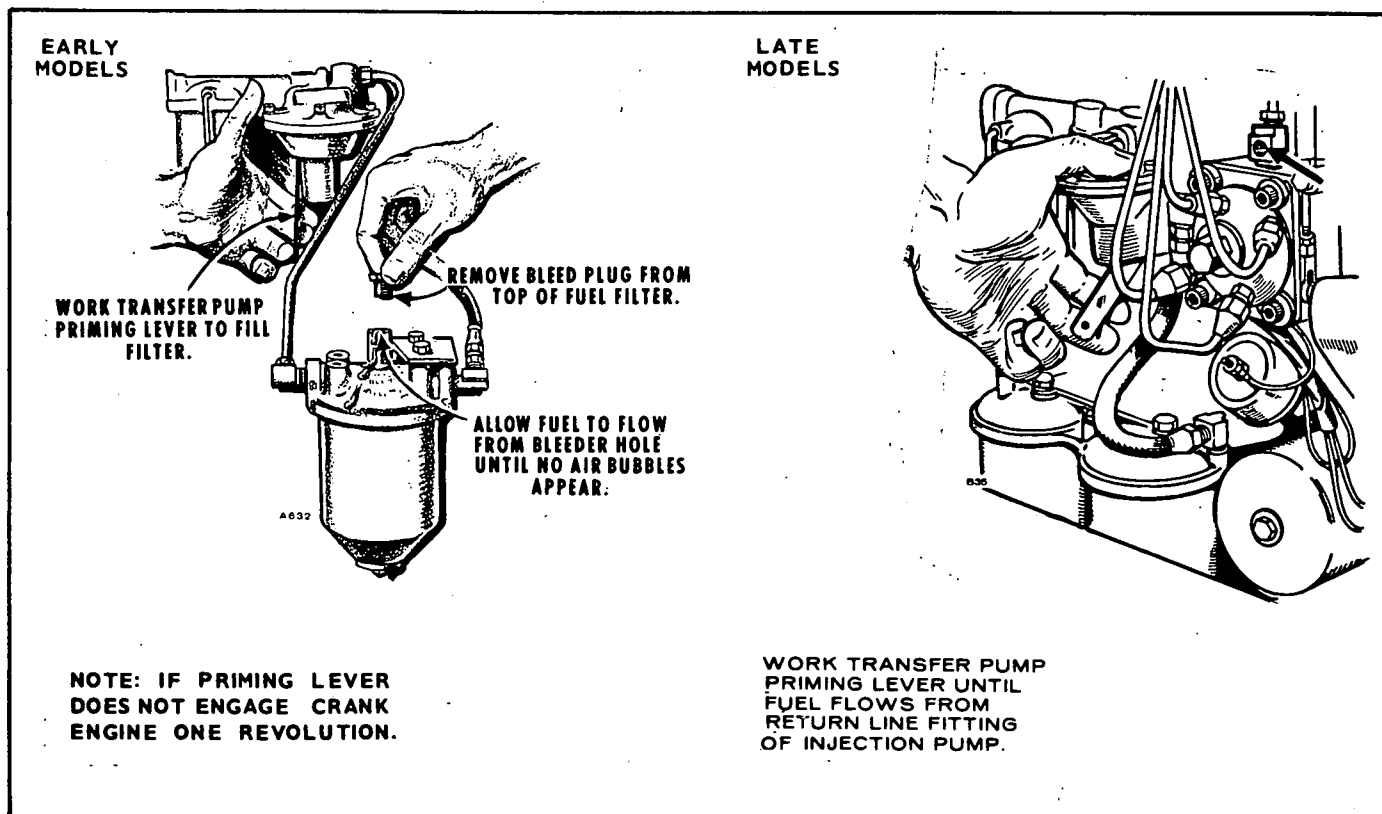

FIGURE 13. BLEEDING FUEL SYSTEM
When replacing or cleaning the filters, bleed the fuel system. Do this by opening the air bleed screw located on top of the secondary filter removal cap screw. Operate the hand priming lever on the transfer pump until no air bubbles flow from the bleed screw hole; then tighten the bleed screw. Return the priming lever to its original position. See Figure 13.
2. Insert the link and rocker arm into the body and hook it over the diaphragm pull rod. Align the rocker arm with the rocker arm pin hole and drive in the pin. The priming lever must be in the position shown in Figure 13 when installing the rocker arm.